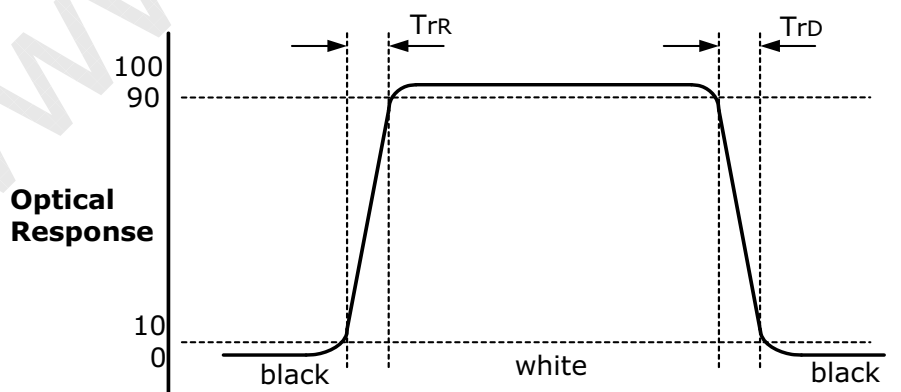

FIG. 4 Response Time
4. Response time is the time required for the display to transition from black to white (Rise Time, Tr_R) and from white to black (Decay Time, Tr_D). For additional information see FIG 4. (By RD-80S)